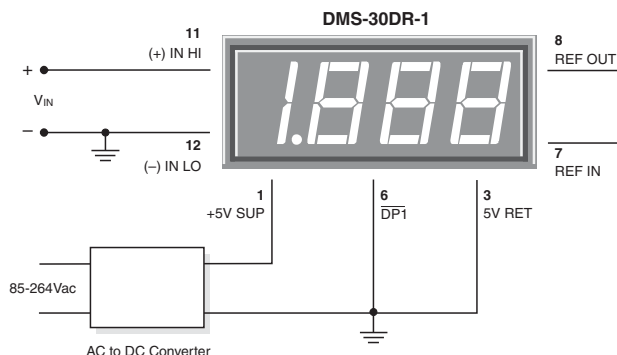

Figure 2. Single-Ended Input Configuration
**1. Single-Ended Input Configurations:** True single-ended measurements can be made with any DMS-30DR meter. The circuit of Figure 2 avoids problems normally associated with ground-loop currents. Separate ground runs should be used for 5V RETURN (pin 3) and (–) INPUT LO (pin 12). This will ensure that large LED currents will not flow in the wiring that connects  $V_{IN}$  to (–) INPUT LO (pin 12). Ground-loop currents can cause unstable readings.